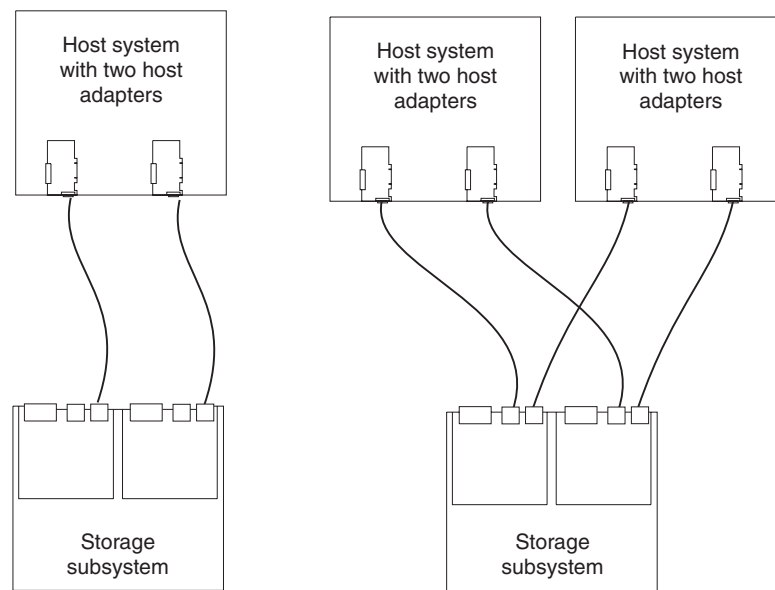

Figure 55. Examples of redundant host direct attached Fibre Channel SAN configurations
- Redundant host direct-attached configurations, as shown in Figure 55